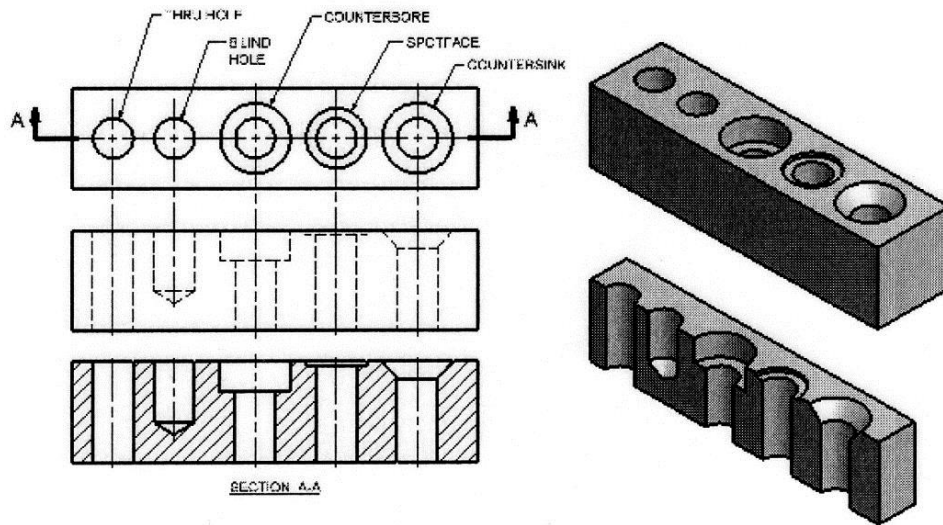

Figure 1. Types of Holes
4. Machined holes by their profiles (see Figure 1):